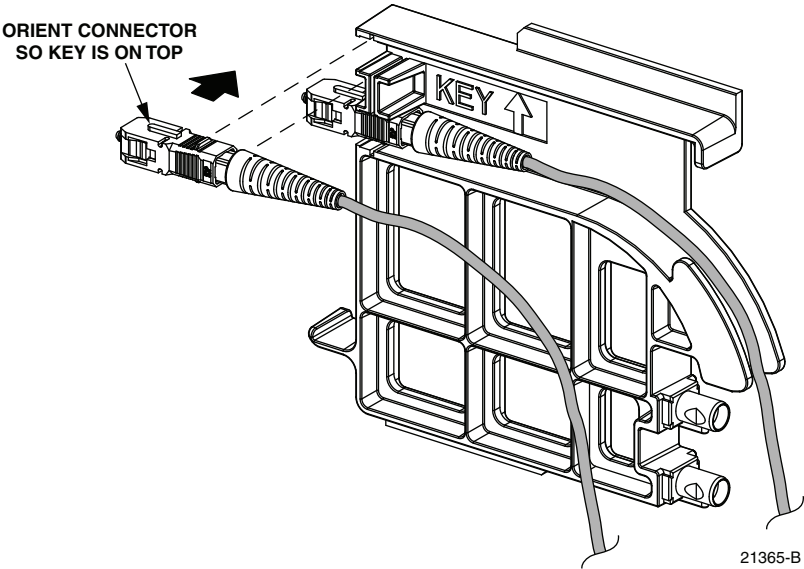

Figure 74. Installing Patch Cord Connector in Dust Cap Assembly
8. Install the patch cord connector in the dust cap assembly as shown in Figure 74.